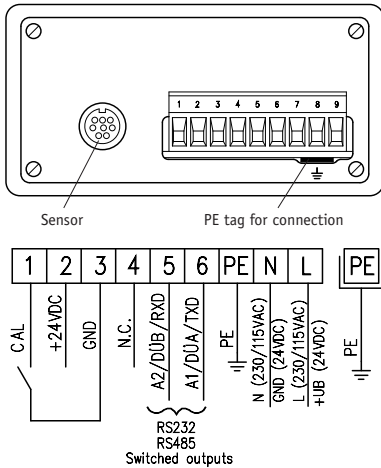

Fig. 2: Pin outs EG
- PE-connection with 2,5 – 4mm² via PE-clamp (fig. 2).
via 8-poles rear side Mini-Din socket (fig. 2/fig. 6).